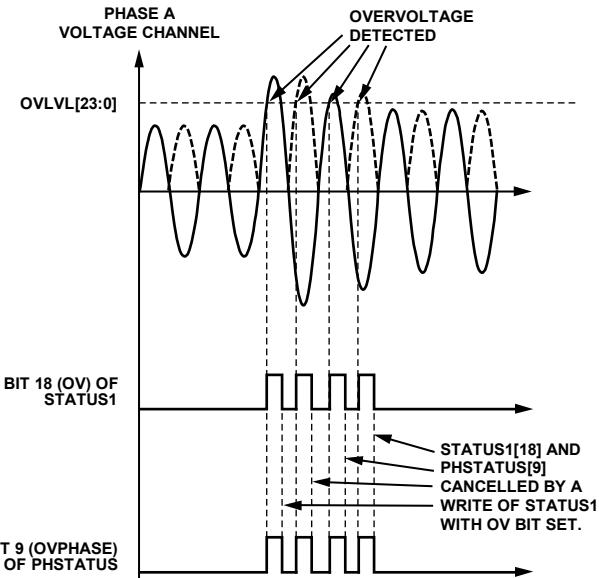

Figure 53. Overvoltage Detection, Phase A
Next, Bit 18 (OV) in the STATUS1 register and all Bits[11:9] (OVPHASE[2:0]) in the PHSTATUS register are cleared. Set the IRQ1 pin to high by writing to the STATUS1 register with the status bit set to 1. See Figure 53 for overvoltage detection in Phase A voltage.